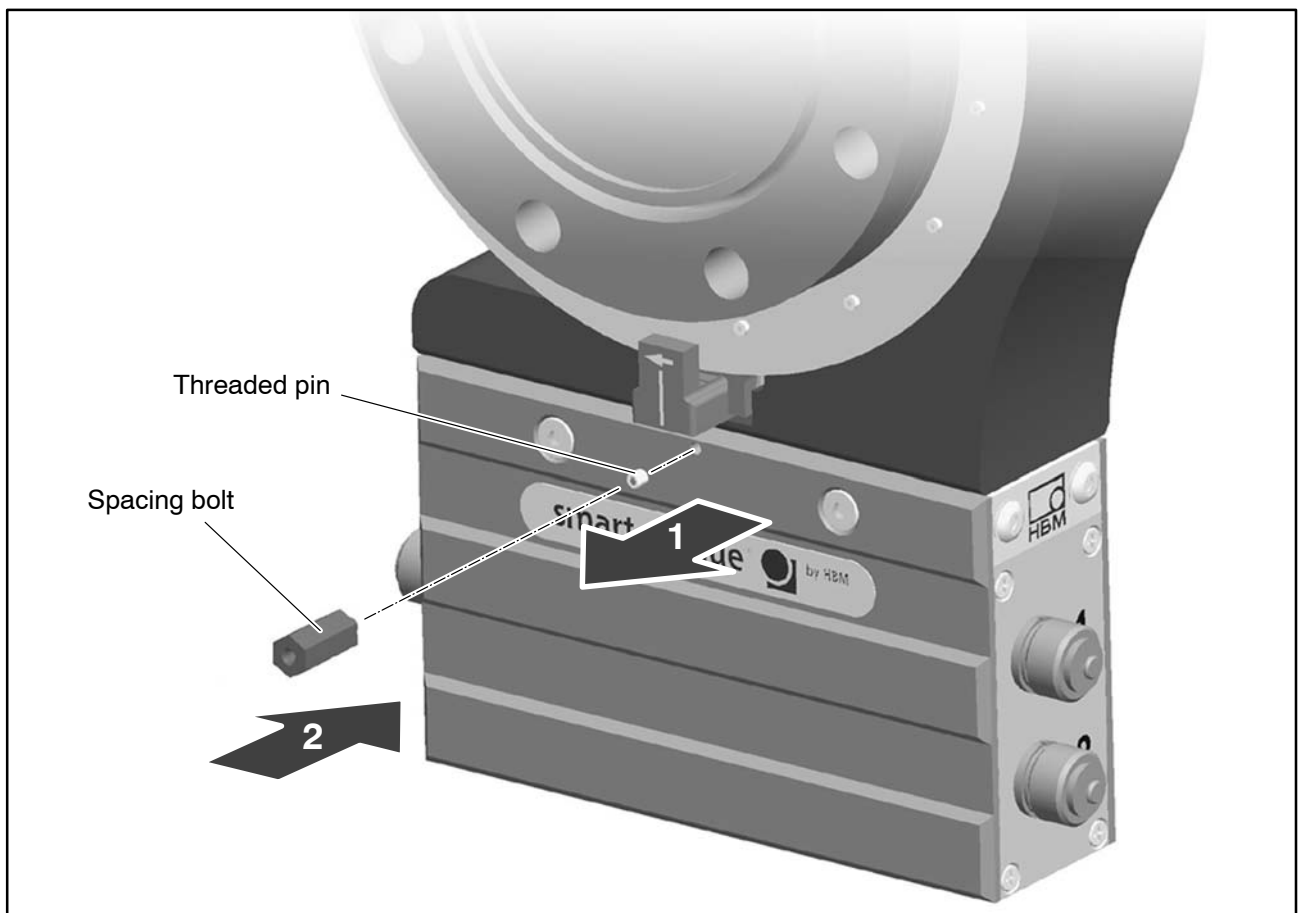

Fig. 6.6: Fit the spacing bolt (for 5 kN·m and 10 kN·m only)
- 3. For 5 kN·m and 10 kN·m measuring ranges only:** remove the threaded pins from the tapped holes on both sides of the stator. Screw the spacing bolt into the tapped hole on the side of the rotational speed sensor (see Fig. 6.6).